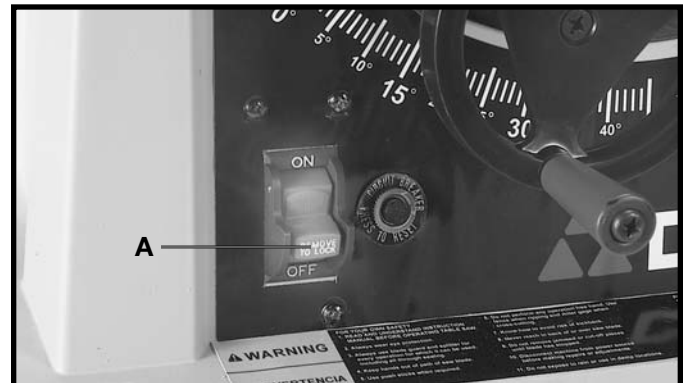

Fig. 24
The on/off switch (A) Fig. 24, is located on the front of the saw cabinet. To turn the saw "ON" move the switch (A) to the up position. To turn the saw "OFF", move the switch (A) to the down position.